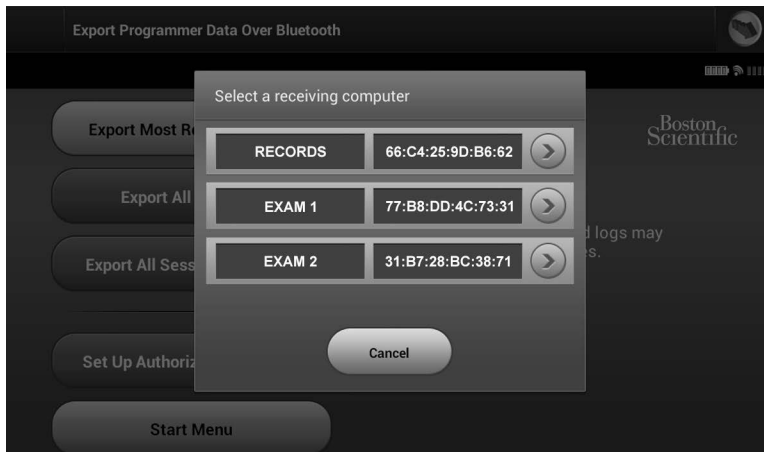

Figure 42: Select a computer to receive the transfer
2. Select one of the three export options (Export Today's Data, Export Last Seven Days, Export All). The "**Select a receiving computer**" pop-up window will appear (Figure 42).